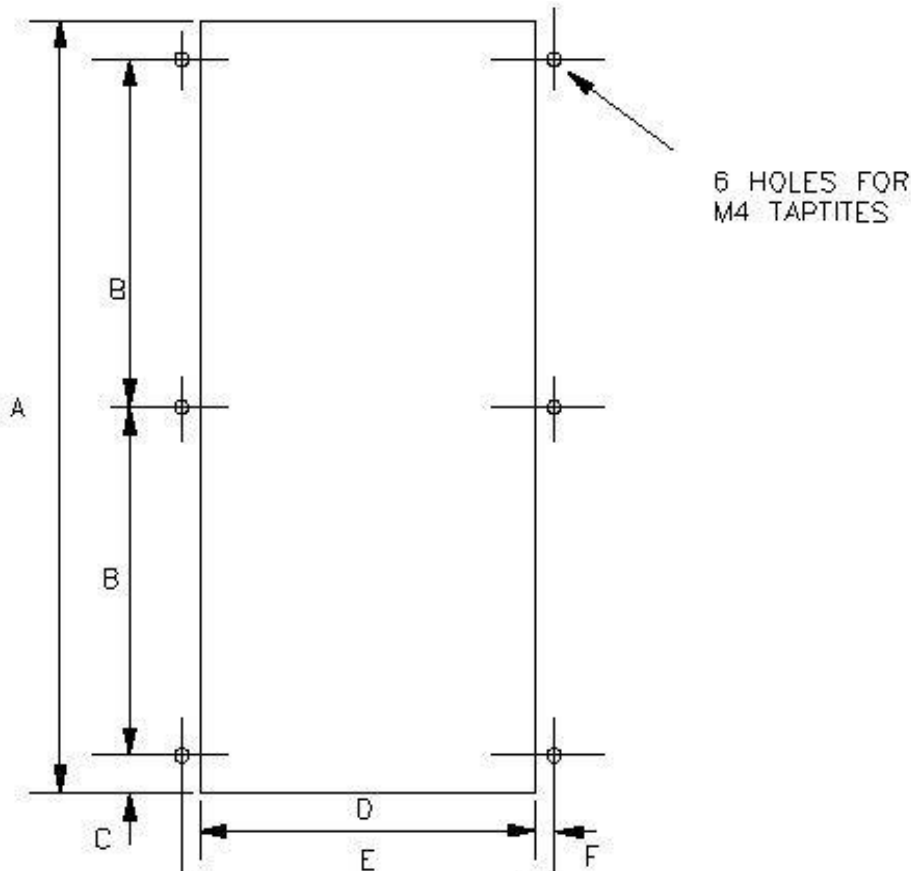

Figure 3 - Fixing Centers on DELTA Cooling System for Ducting the Outlet
- The air outlet must not be obstructed and should preferably be ducted out of the control enclosure. Figure 3 - Fixing Centers on DELTA Cooling System for Ducting the Outlet shows the six fixing centers on each of the fan outlets for connecting a duct.